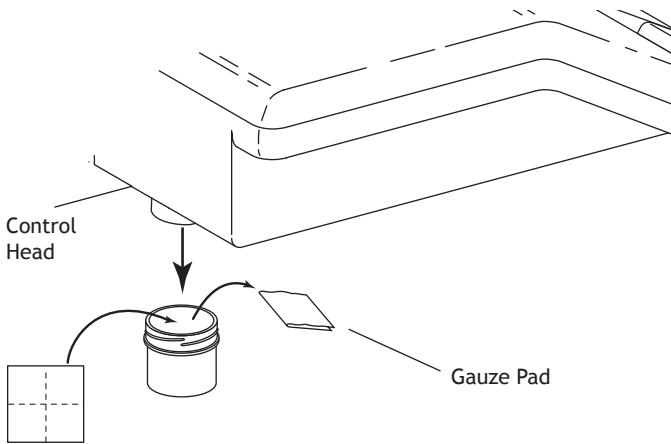

Figure 10. Oil Collector
1. Remove the oil collector jar from the unit and discard the old gauze (see Figure 10).